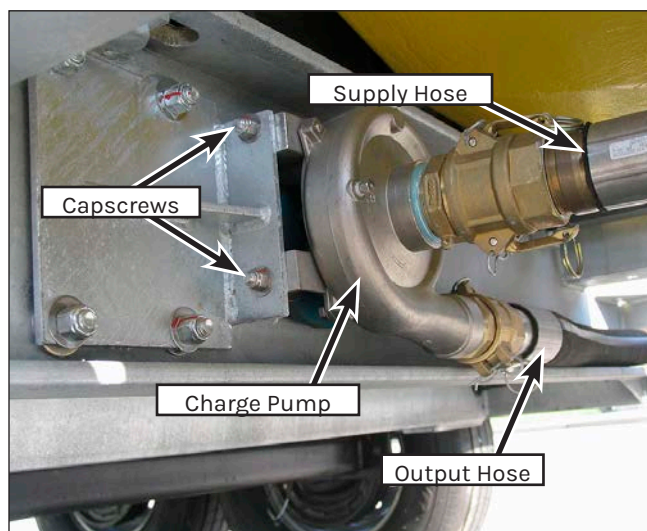

Figure 144: Charge Pump Removal.
7. Remove the output hose (Figure 144) and the supply hose from the charge pump.
8. Remove the two capscrews (Figure 144), nuts and washers that secure the charge pump to the mounting bracket. Remove the charge pump.
1. Place the charge pump into position on the mounting bracket. Install the two capscrews (Figure 144), nuts and washers that secure the charge pump to the bracket. Tighten the capscrews to 9 ft. lb (12 N·m).